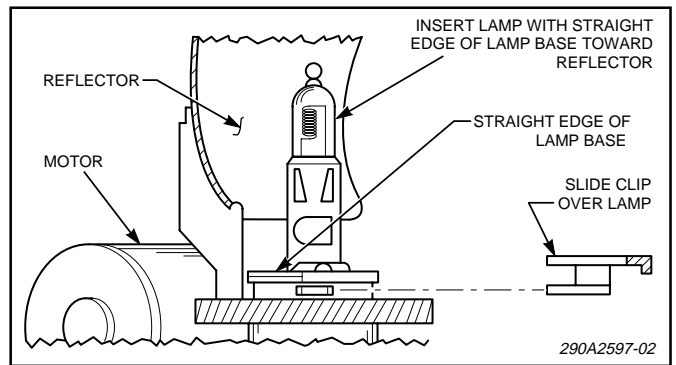

Figure 5.
- b. See figure 5. Note the lamp's orientation and replace the lamp (Federal Part No. 8440A265A-01) with the straight edge of the lamp's base toward the reflector.